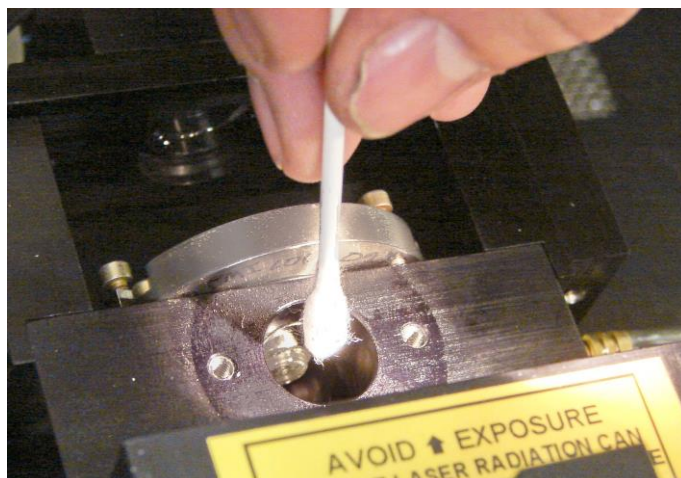

Figure 26: Cleaning the Optics
- 2) Using a cotton swab with a one to two drops of spectra-photo grade acetone, clean the optic (Figure 26: Cleaning the Optics). A single gentle swipe in one direction across the middle portion of the optic works best. **DO NOT** use a scrubbing or circular motion, as this tends to spread any contamination. Usually 2-3 cleaning swipes using fresh acetone and a fresh cotton swab for each swipe is adequate.